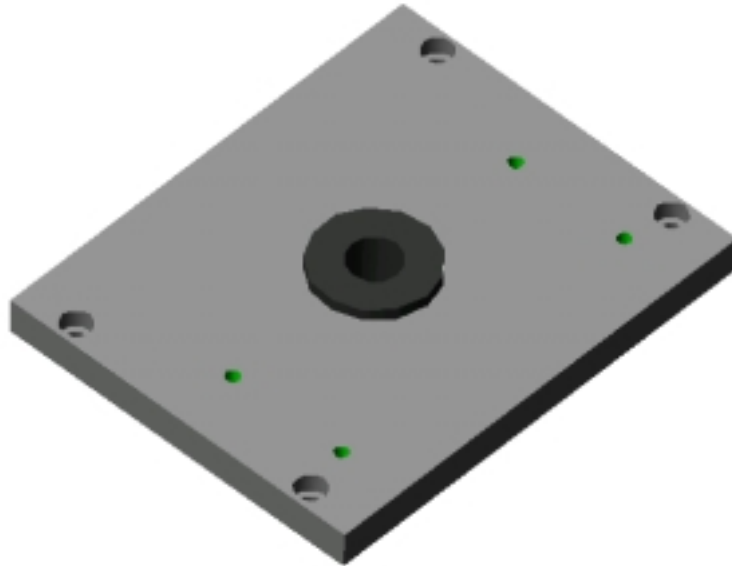

Figure 39. Grommet in upper temperature shield.
**STEP 19:** Get the upper temperature shield (drawing #18) and place a grommet (McMaster-Carr #9311K77) in the big hole (see figure 39).